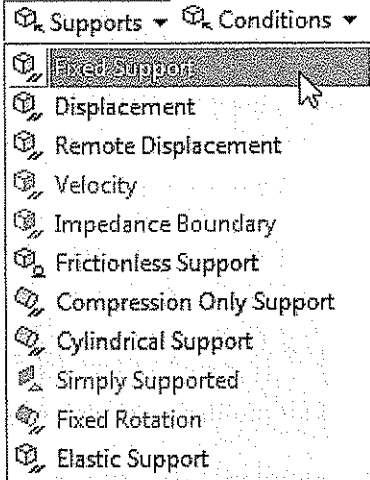

Figure 9-10 Choosing the Fixed Support tool from the Supports drop-down
- 2. In the **Environment** contextual toolbar, choose the **Fixed Support** tool from the **Supports** drop-down, refer to Figure 9-10; **Fixed Support** is attached to the Tree Outline. Also, the **Details of “Fixed Support”** window is displayed.